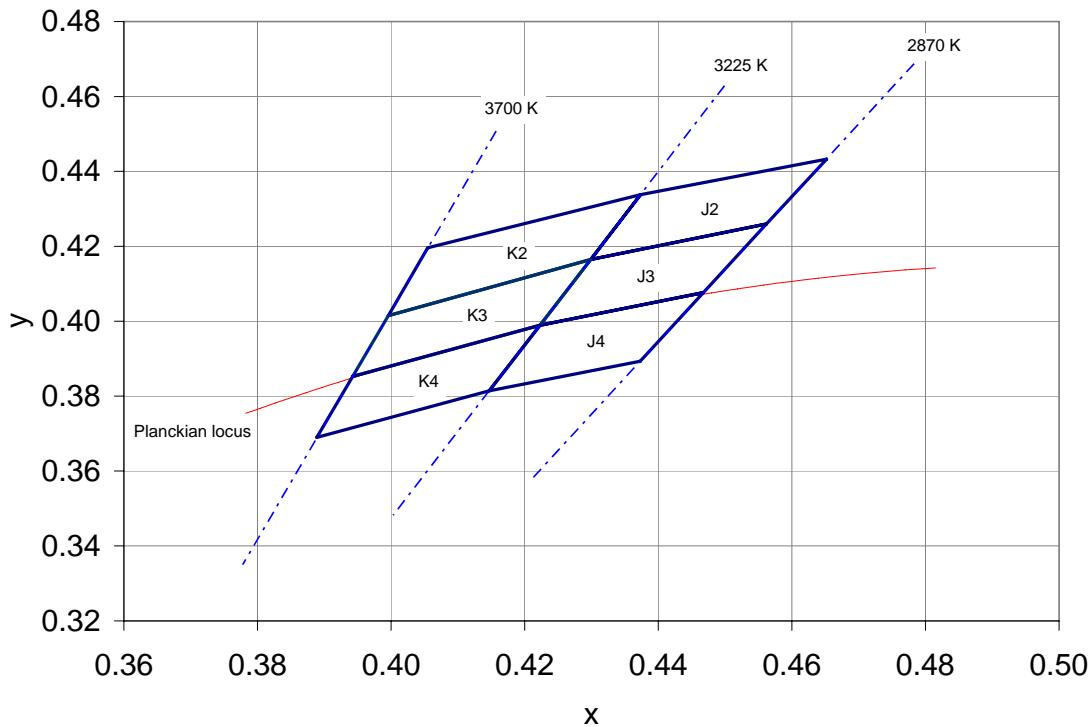

Figure 1: Standard Chromaticity Groups plotted on excerpt from the CIE 1931 (2°) x-y Chromaticity Diagram.
- J and K – designate the CCT bin groups (see Figure 1 and Table 3)